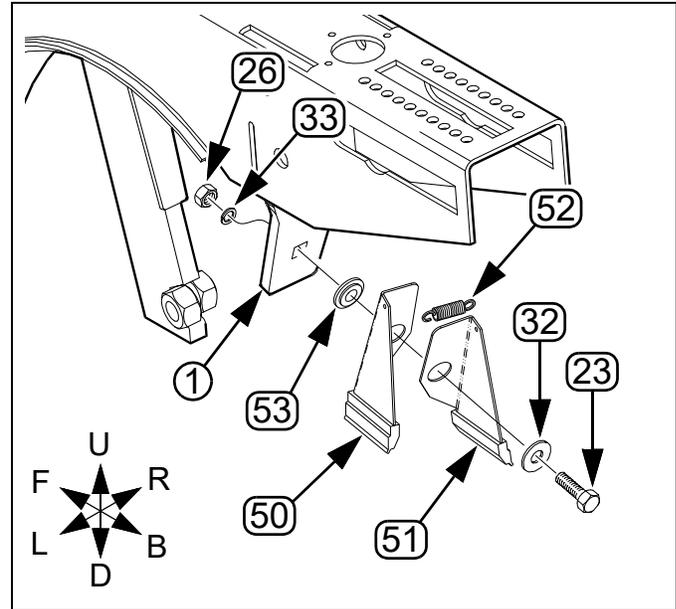

Figure 57
11. Remove one or both disc blades to gain safe access to the mount ①. Note the position of bushings and spacers for correct re-assembly (page 36).
*Refer to Figure 57*
②③ 802-079C HHCS 3/8-16X1 1/4 GR5